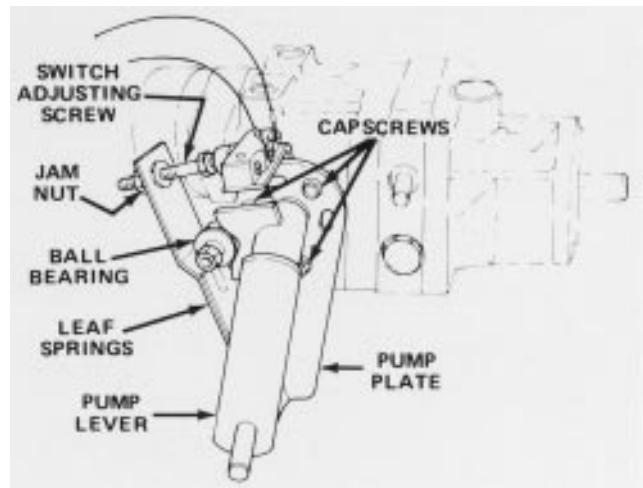

Figure 57
1. Park vehicle on a level surface and turn engine off. Apply the parking brake, tip seat forward, and actuate pump lever (Fig. 57) to insure assembly is properly seated and operating freely. Correct any discrepancy.
6. Because the wheel is rotating, the pump plate must be adjusted. But before adjusting the pump plate, move throttle to SLOW. If wheel is rotating forward, loosen capscrews, and lightly tap bottom of pump plate counterclockwise (Fig. 57). By contrast, tap pump plate clockwise if wheel is rotating backward (Fig. 57). When wheel stops rotating, tighten capscrews holding pump plate against side of transmission. Verify the adjustment with throttle in SLOW and FAST position.
- A. Ball bearing is loose or worn out (Fig. 57).
- F. Weak or damaged leaf springs (Fig. 57). Replace.
- 2. Actuate the pump lever (Fig. 57) to insure all parts are operating freely and seated properly.
- 3. Loosen jam nut. Rotate switch adjusting screw (Fig. 57) until there is a gap between head of screw and switch button.